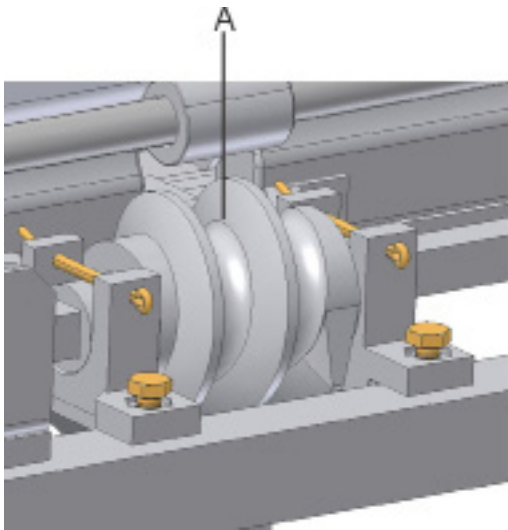
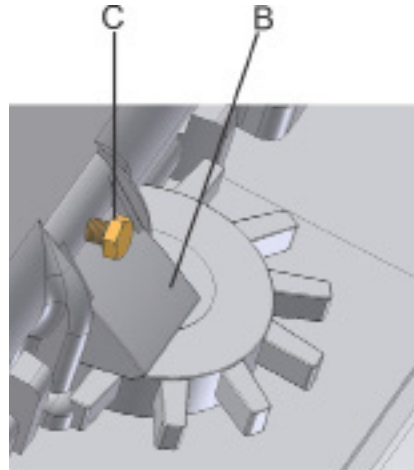

fig.21
fig.22
For the corn crop in lines where the fertilizer metering is not being used, remove the movers (A) (fig.21), letting the feeders mounted and the regulator (B) (fig.22) closed to prevent leakage of fertilizer. The fixing bolt (C) must be loosened.